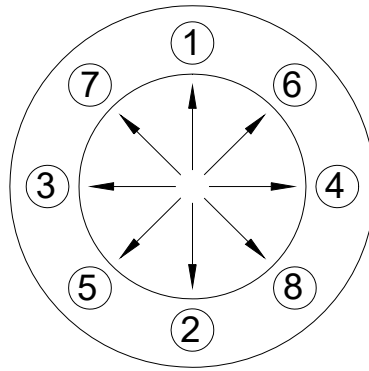

Fig 3.1 Procedure for Fastening Flange Bolts
- E) When assembling the valve, you should use a specified gasket, and install it in parallel with the other flange. Also, you are recommended to fasten the bolts in several parts in a balanced manner sequentially in diagonal direction. (See Fig 3.1)